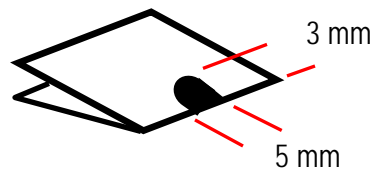

Figure 18
21. Fold the longer length of each piece in half, and then cut a hole at the middle of the fold: 3 mm deep by 5 mm wide (see Figure 18).